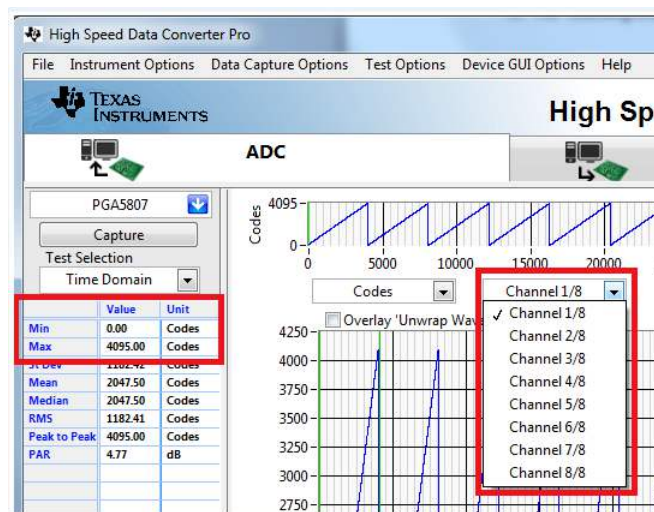

Figure 35. RAMP Capture by Channel
- By default, Channel 1/8 is the first channel displayed. Use the drop-down menu shown in Figure 35 to view all 8 channels and confirm that a saw tooth waveform has been captured. Also confirm, in the menu to the left side, that the min code is 0 and the max code is 4095, corresponding to a 12-bit ADC.